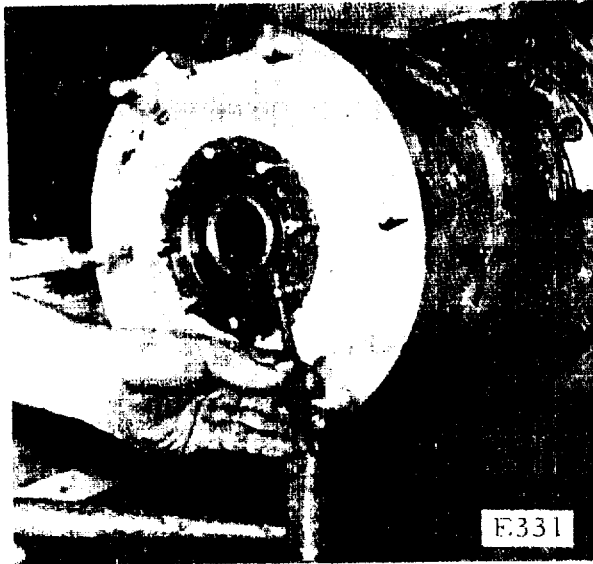

FIGURE 8-24.
d. Remove the bearing locknut (see figure 8-24) and the tanged washer. Wiggle the hub to free the bearing and remove the bearing.